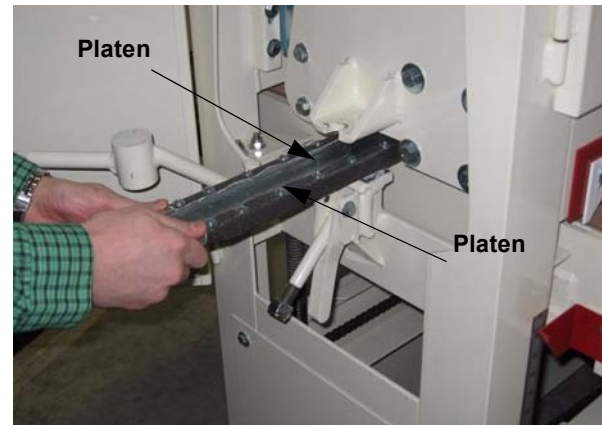

Figure 48: Platen And Installation
**NOTE:** The platen is not designed for stock removal. Use the platen only for finish sanding. Stock removal should be completed first. See Fig. 48.